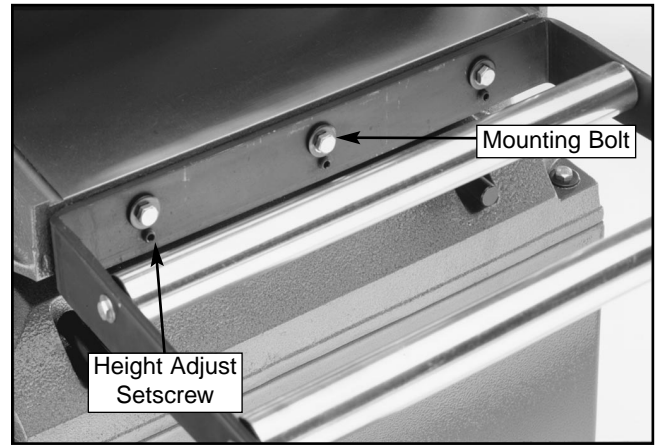
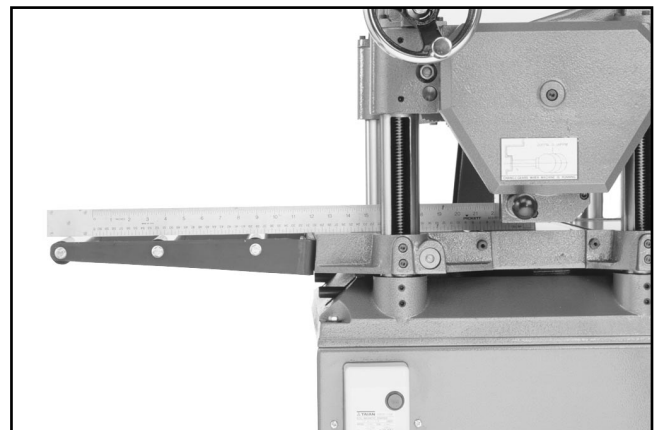

Figure 5. Extension roller attachment points.
Figure 6. Checking extension roller height.
1. Thread three (3) 8mm setscrews into the mounting bracket of the extension rollers. The setscrew holes are located just below the mounting holes. Just start them into the holes for now.
2. Use three (3) hex bolts and washers to mount the extension rollers. **See Figure 5.** Make sure the roller assembly is oriented as shown in **Figure 6.**
3. Position a straightedge on the table bed, so it lays on the table and suspends over the extension rollers. **See Figure 6.**